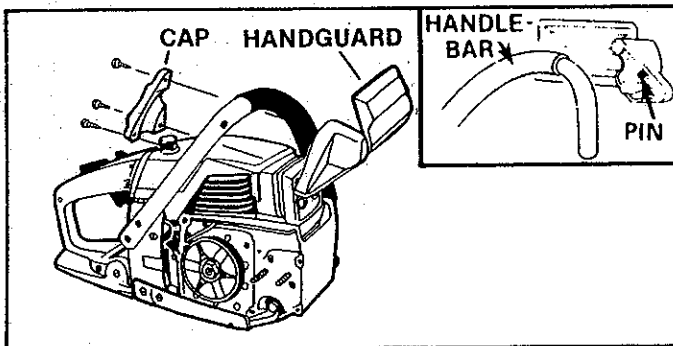

Figure 6
1. Align the Handguard and Handguard Cap around the handlebar as shown in Figure 6.